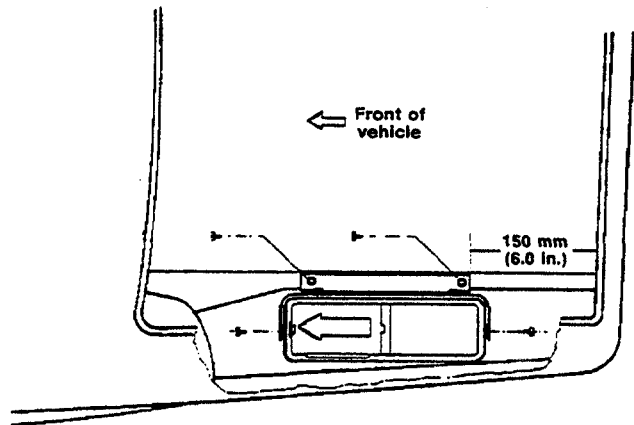

Figure 1
8. Using the bracket/shell assembly as a template, place it at the edge of the left wheel well. The rear edge of the bracket should be 150 mm (6 in.) from the rear wall of the trunk (Figure 1).